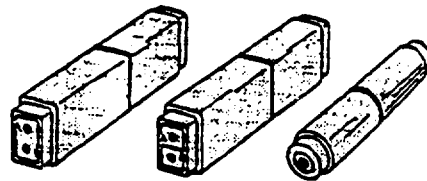

Figure 9. Wire In-Line Junctions
23. **WIRE IN-LINE JUNCTION, SINGLE AND DOUBLE (SPLICE).** A wire-in-line junction is essentially a feedthrough environment resistant disconnect component for joining wires. It consists of a body with internal contacts that accommodate removable external contacts. The inline junction splice (Figure 9) is particularly suitable for incorporation into harness wiring, terminating equipment pigtails or single wire repairs that do not affect the overall diameter.